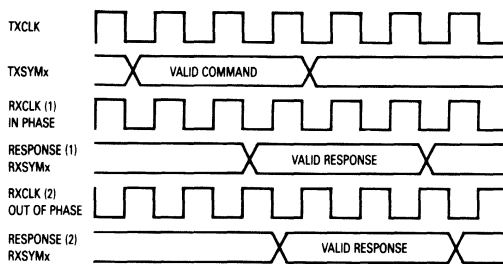

Figure 8-1. Parallel Command Response Time
1. ACK response to RESET, DISABLE LOOPBACK, and ENABLE TRANSMITTER within 2 clock periods. As shown in Figure 8-1, the precise response time depends on the relative phase of the TXCLK and the RXCLK signals. If they are in phase, the response will be available at the RXYMx pins 1.5 clocks after the command is latched. If the clocks are 180° out of phase, the delay will be 2 clocks. The command should be held on the TXSYMx pins until the response is received on the RXYMx pins.